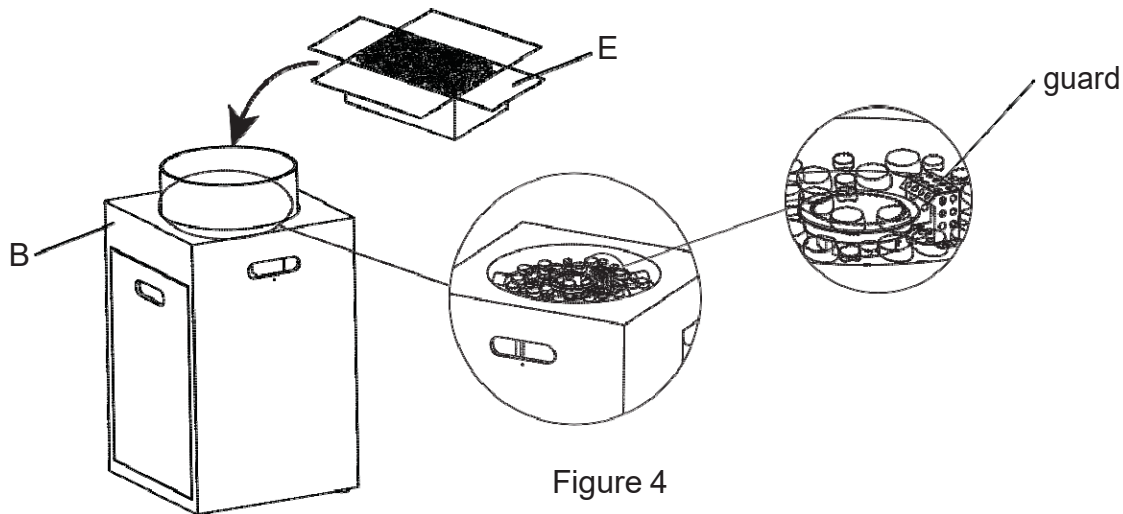

Figure 4
7. Open the box of lava rocks, put the lava rocks (E) into the fire bowl of the fire pit body (B) (see Figure 4).
**NOTE: DO NOT completely cover the burner element or block the guard with the lava rocks (E). When the first use, preheat the lava rocks (E) for 15minutes to burn out the impurities and air in the natural lava rocks (E).**
**WARNING:** Keep children away during assembly, as this item contains lava rock (E), which are small pieces and can be swallowed by children.